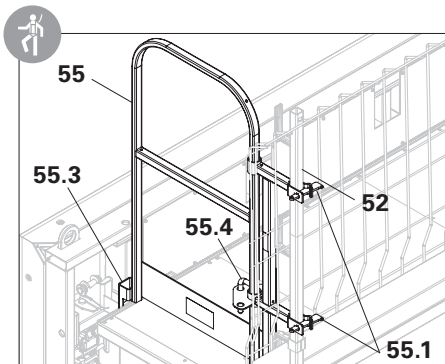

Fig. B5.03
1. Release wedges (55.1) of the Stopend Guardrail MXK (55).
2. Fix locking bolt (55.4) on the centre of the bracket. (Fig. B5.03 + B5.03a)
3. Place Stopend Guardrail MXK on the Guardrail Post MXK (52). (Fig. B5.03 + B5.03a)